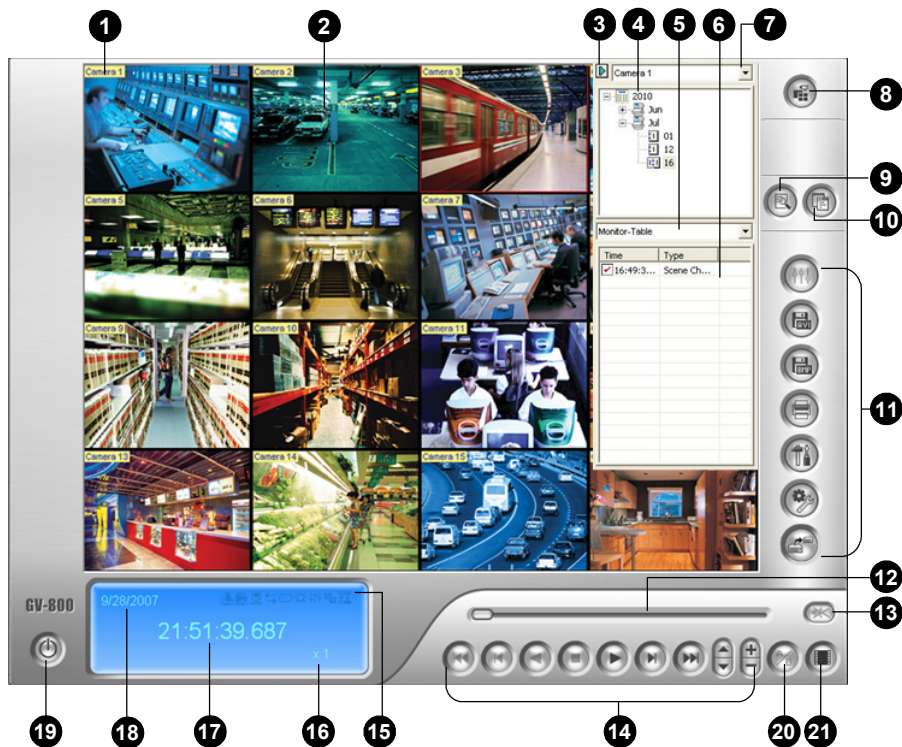

Figure 4-1 The ViewLog Window
Without further settings you can play back the event by clicking the **Play** button on Playback Panel. Click the **View Mode** button (No. 8, Figure 4-1) to switch the current view mode to a multi-channel view. Use controls on Playback Panel to view the event in the way you want. Move the slider in Playback Meter (No. 12, Figure 4-1) forward and backward to navigate video frames.
To play back multiple events, keep pressing **[CTRL]** on the keyboard and highlight the desired events on the Video Event List (No. 6, Figure 4-1). Then click the **Play** button to play these events. To select events from different dates, click the date from the Date Tree (No. 4, Figure 4-1). Events of that date will be listed in the Video Event List.
Click the **View Mode** button (No. 8, Figure 4-1) any time when you want to change the current view mode.
1. Click the **Advanced** button (No. 9, Figure 4-1) and select **Bookmark**. The Bookmark window appears.
1. Click the **Advanced** button (No. 9, Figure 4-1) and select **Basic Search**. This dialog box appears. Alternatively, press **[CTRL] + [F8]** on the keyboard to call it up.